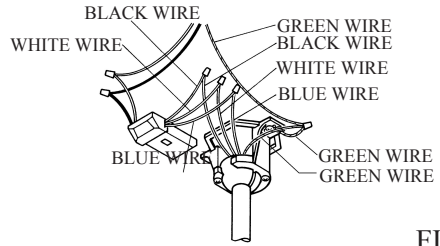

FIG.7
2. Connect the black wire from receiver to the black wire from fan with wire nut. Connect the white wire from receiver to the white wire from fan with wire nut. Connect the blue wire from receiver to the blue wire from fan with wire nut. Connect the green wire from ceiling, and green wire from hanger bracket with green wire from downrod ball with wire nut. (see Fig.7)